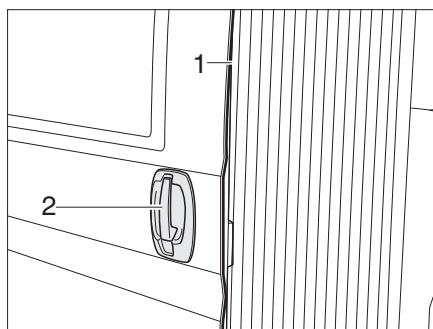

Fig. 16 Sliding door, electric - door handle on outside
- ▷ In order to avoid bruising caused by the electric sliding door, the closing edge has a contact strip (Fig. 16, 1). When contact is made, the movement of the sliding door is stopped immediately.
Opening: ■ Pull the door handle (Fig. 16,2). The electric sliding door opens completely.
Closing: ■ Pull the door handle (Fig. 16,2). The electric sliding door closes and latches into the door lock.